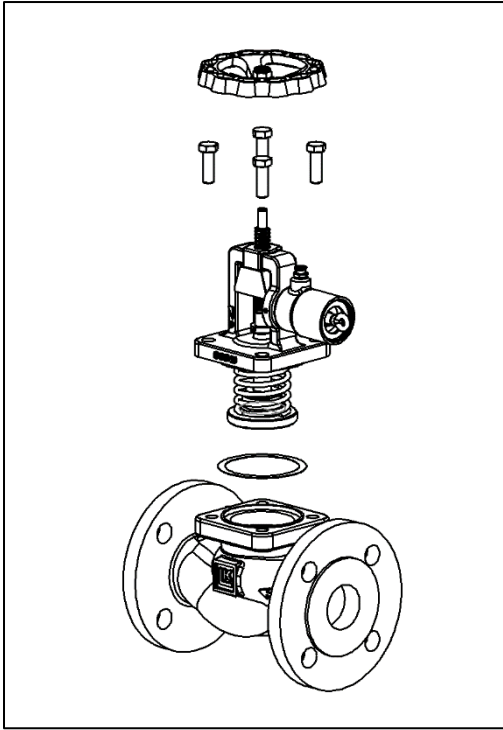

Figure 1 Disassemble bolts and handwheel to separate bonnet and body. Replace the old gasket with the new.
4. Disassemble the handwheel from the stem. (see figure 1)